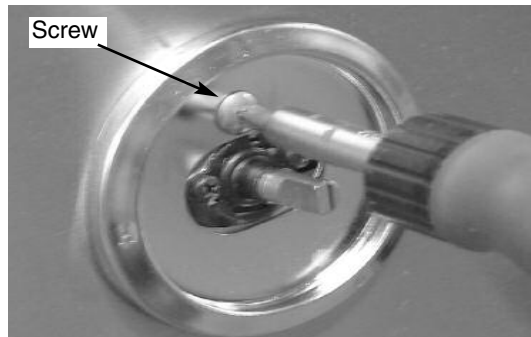

Fig 13
13. Remove both screws holding each bezel in place on the control panel. (See Fig. 13)